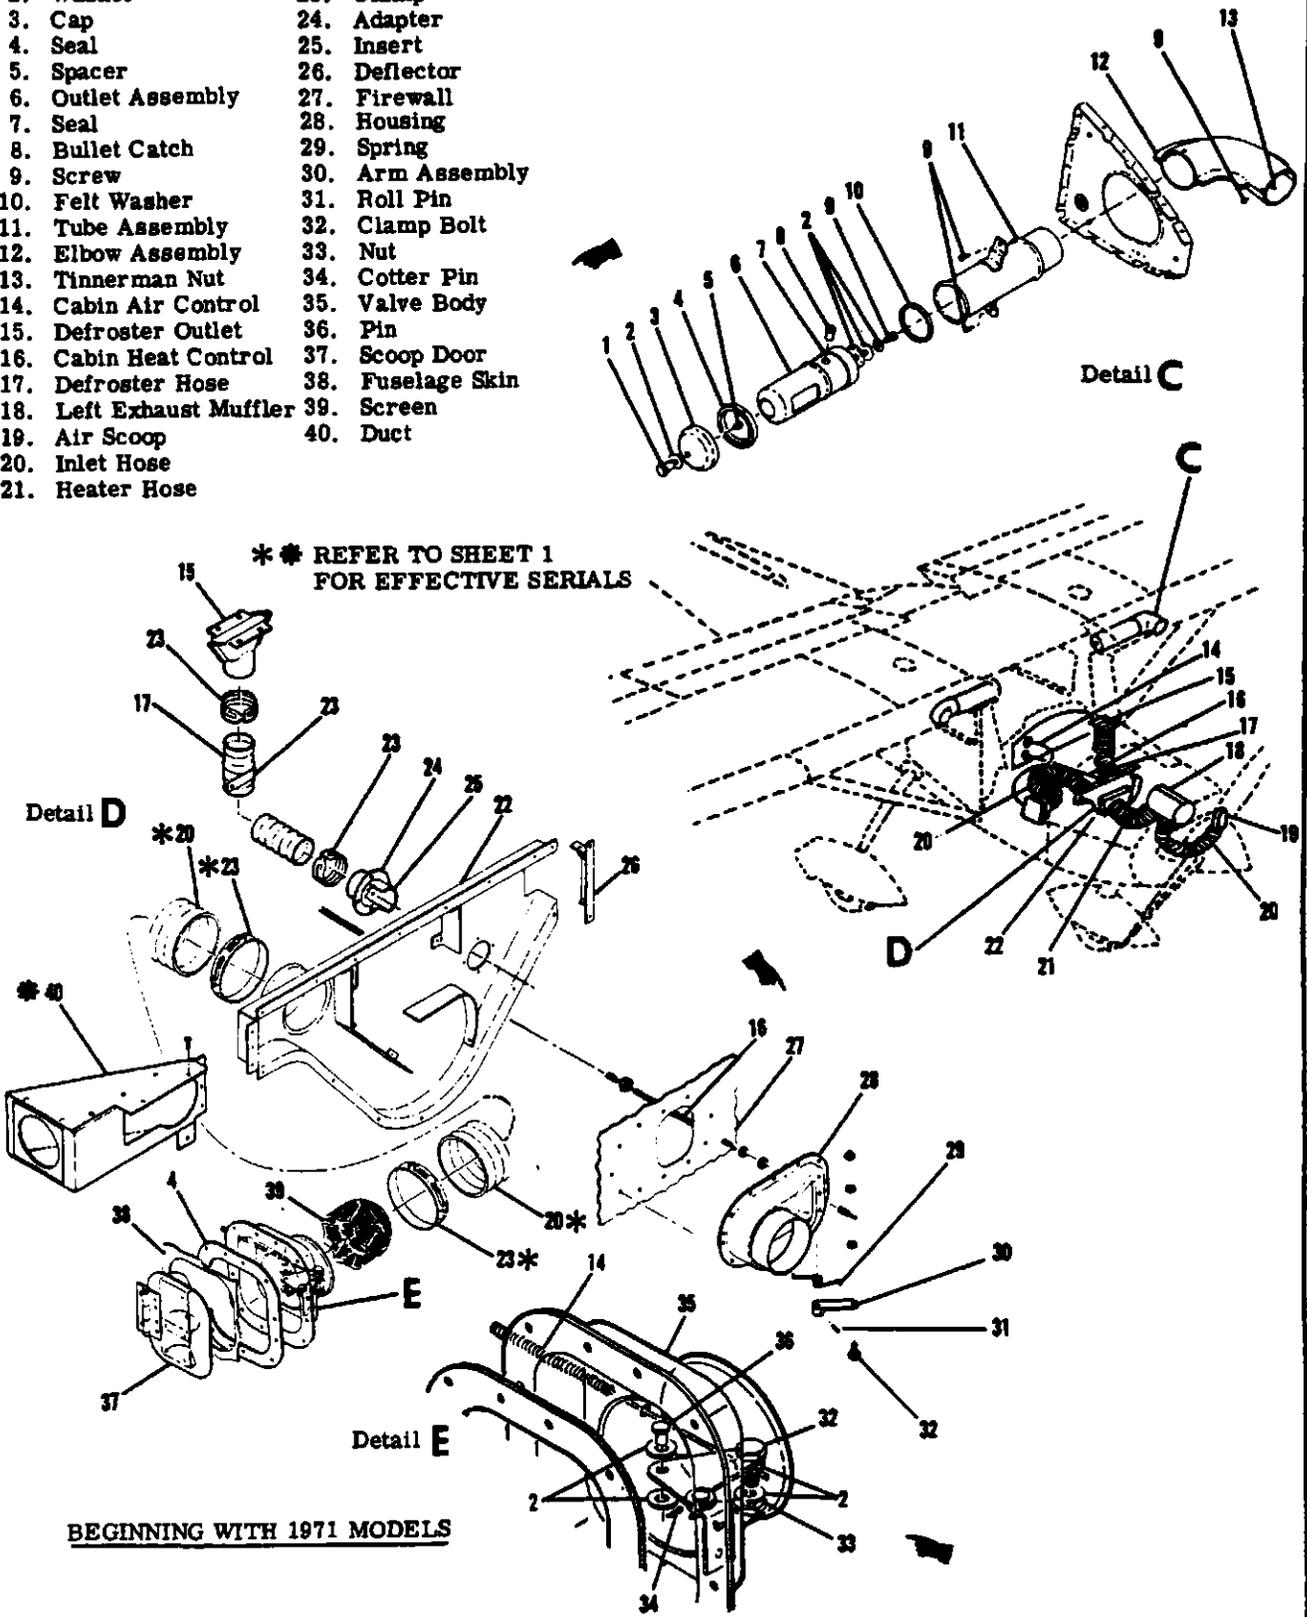

Figure 14-1. Heating, Defrosting, and Ventilating Systems (Sheet 2 of 2)
**14-11. REMOVAL, INSTALLATION AND REPAIR.** Figure 14-1 may be used as a guide for removal, installation and repair of defrosting system components. Cut hose to length and install in the original routing. Trim hose winding shorter than the hose to allow clamps to be fitted. A defective defroster outlet must be repaired or replaced.
**14-16. REMOVAL, INSTALLATION AND REPAIR.** Figure 14-1 may be used as a guide for removal, installation and repair of the ventilating system components. A defective ventilator or scoop door must be repaired or replaced. Check for proper operation of ventilating controls after installation or repair.